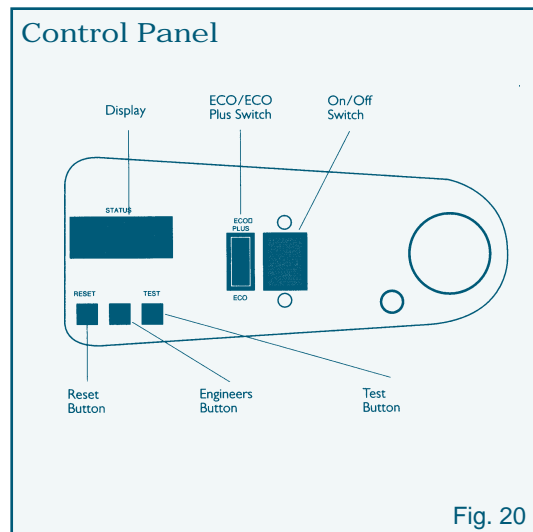

Fig. 20
For electrical connection plug/socket function and location see fig 20.
- Switch on the boiler at the on/off switch. (See figure 20) The appliance will purge both combustion chambers with air from the burner fans and then will pulse the pumps on/off (venting) to push away any air that may be remaining in the heat exchangers.